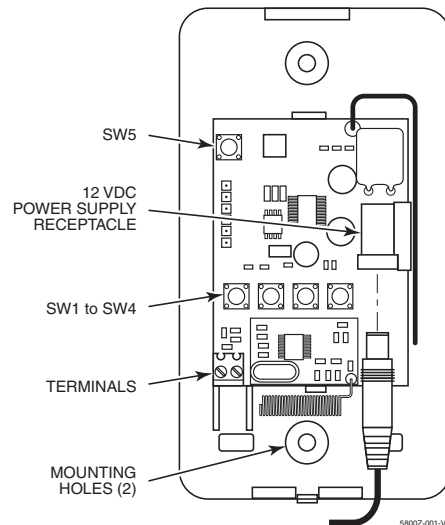

FIGURE 2. 5800ZBRIDGE
3. Mount the 5800ZBRIDGE using the provided screws. (Refer to Figure 2)
1. Plug in 12VDC power supply, LED flashes ORANGE 3 times and then goes out. (Refer to Figure 2)
1. Press the corresponding switch (SW1 through 4) for 1 second and release for any combination of four Thermostats or Lights. (Refer to Figure 2)